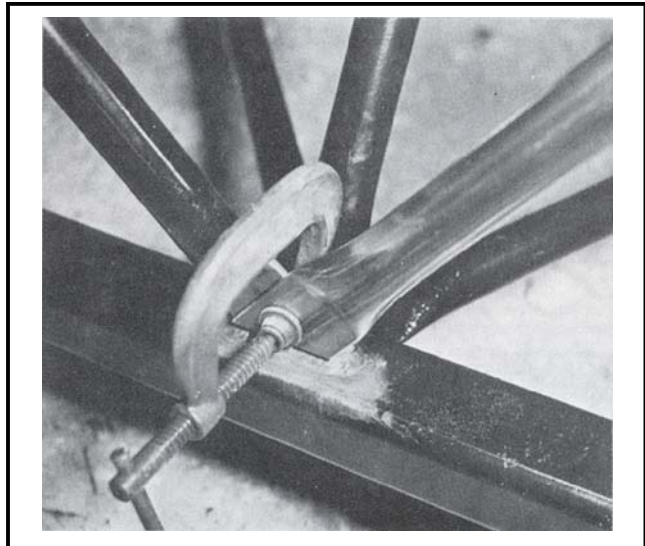

Figure 11
6. Align and clamp lattice into position for welding (see Figure 11).